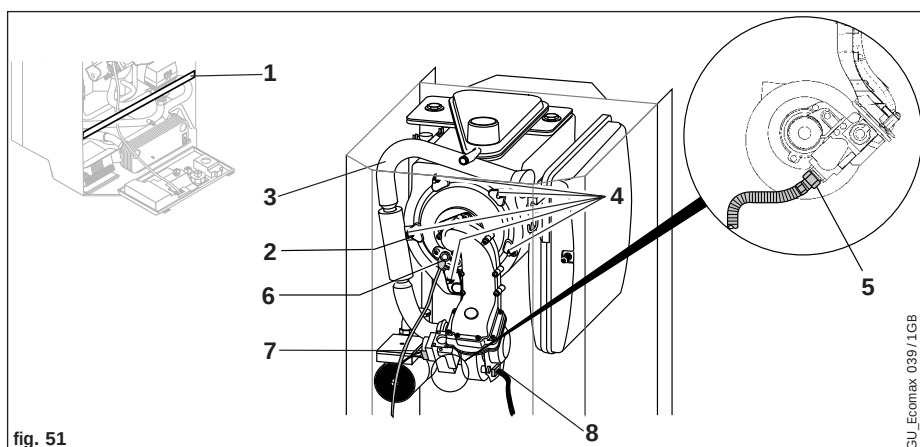

fig. 51
6.2.3 Remove burner (fig. 51)
- Lift and remove control panel cross member (1, fig. 51).
- Remove screw (2, fig. 51) and disconnect air inlet pipe (3, fig. 51).
- Disconnect gas supply from gas valve by undoing union (5, fig. 51).
- Disconnect HT lead and earth lead from spark electrode (6, fig. 51).
- Remove five nuts from burner manifold (4, fig. 51).
- Disconnect two electrical connections from fan and gas valve (7 and 8, fig. 51).
- Loosely position the burner, fan and gas valve assembly in place and reconnect the two electrical connections to the fan (7 and 8, fig. 51).
- Reconnect the gas supply to the gas valve (5, fig. 51), ensuring that a new sealing washer is used and correctly located.
- Reconnect the HT lead and earth lead to the spark electrode (6, fig. 51).
- Refit the air inlet pipe (3, fig. 51).